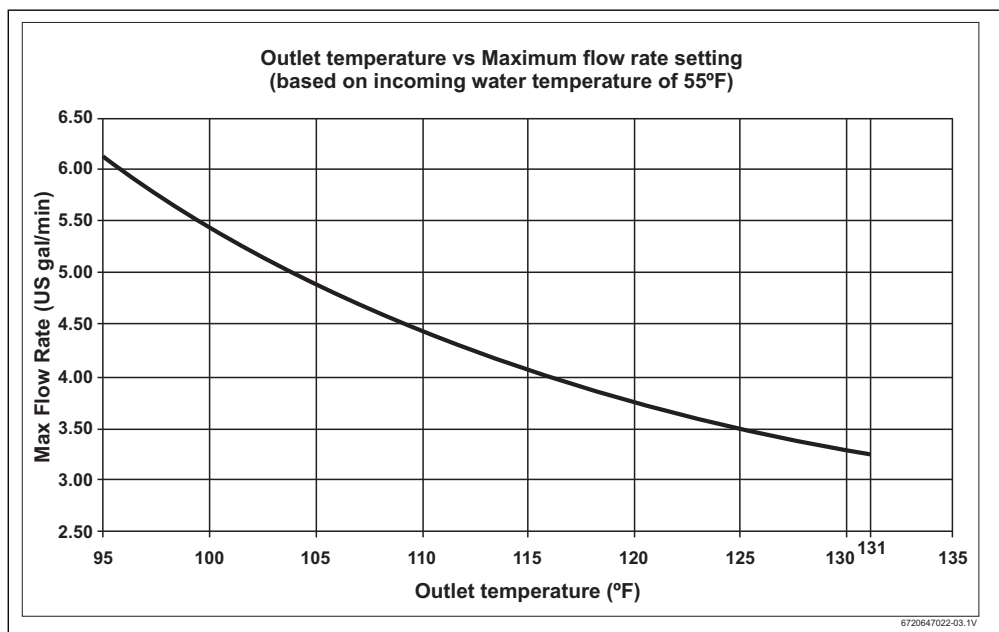

Fig. 8
- ▶ If the water temperature is not hot enough, adjust the outlet shut-off valve until the temperature is acceptable. Use Fig. 8 below for reference if you know your maximum flow.
These figures are based on an inlet water temperature of 55 °F and a supply voltage of 240 volts. If the inlet water temperature is lower than 55 °F, or if the supply voltage is less than 240 volts, then the flow rate for the shown temperatures will be reduced shown in Fig. 8. If a higher outlet water temperature is desired, then reduce the flow rate and/or supply the unit with 240 volts.
The inlet water temperature is too cold	Verify the heater is sized appropriately for its geographic location. Turn temperature knob located on the bottom of the water all the way clockwise for maximum temperature setting. Ensure flow rates are within the heater's specifications. Refer to Fig. 8 on page 13 of the manual. Use of an isolation valve on the hot water outlet to control flow rate is recommended.
Temperature dial is turned too low	Turn the temperature dial located on the bottom of the water heater clockwise for hotter temperatures. Refer to Fig. 8 for outlet temperature vs. flow rate variance.
Water flow is too high	Adjust water flow to stay within the water heater's specifications. See Fig. 8 of this manual.
Outlet shut-off valves are set too low	Adjust installer supplied outlet valve as described below: <ul style="list-style-type: none"> <li>• Completely open both installer supplied inlet and outlet shut-off valves at the heater. (if none installed, install before proceeding).</li> <li>• Completely open hot water on the highest flowing hot water fixture served by the heater (i.e. bathtub).</li> <li>• Slowly close the outlet shut-off valve, slowing the water flow rate until the temperature at the hot water faucet corresponds to the values given on Fig. 8 of the manual, or desired water temperature is reached.</li> </ul>
Changing flow rate. Water supply connected to the outlet of the unit.	Major changes in flow rate can adversely affect the output water temperature of the heater. Increases from one major fixture running to multiple fixtures running at one time can cause the temperature to fluctuate. Stay within the heater's specifications. See Fig. 8.